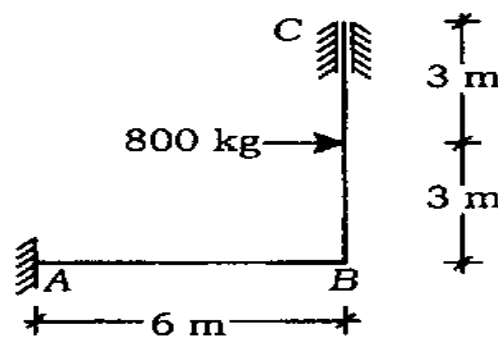

Fig. 3
2. (a) A beam-column frame ABC , as shown in Fig. 3, is rigidly jointed at B . End A is fixed, end C is laterally and rotationally restrained but free to move vertically. The column supports a horizontal load of 800 kg at midpoint. Both beam and column are of same cross-section throughout. Analyse the frame using moment distribution method and draw the bending moment diagram.